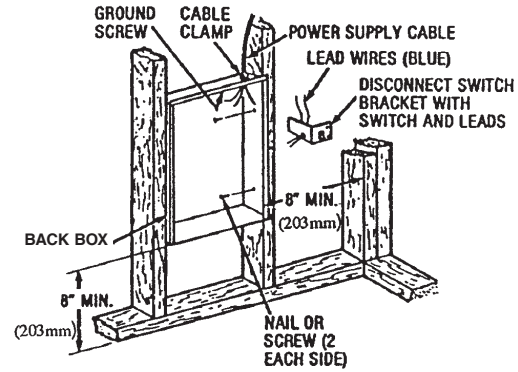

Fig. 1: Locating Recessed Back Box in New Construction
3. Power supply must enter back box through the knockouts in the RIGHT side of box(see Figure 1). See also TOP marking on the back box for proper orientation.
#### 1. Mounting Back Box (See Figure 1).
- c. Secure the back box in position with wood screws or nails as shown in Figure 1.
#### 2. Power Supply Wiring (See Figure 1)